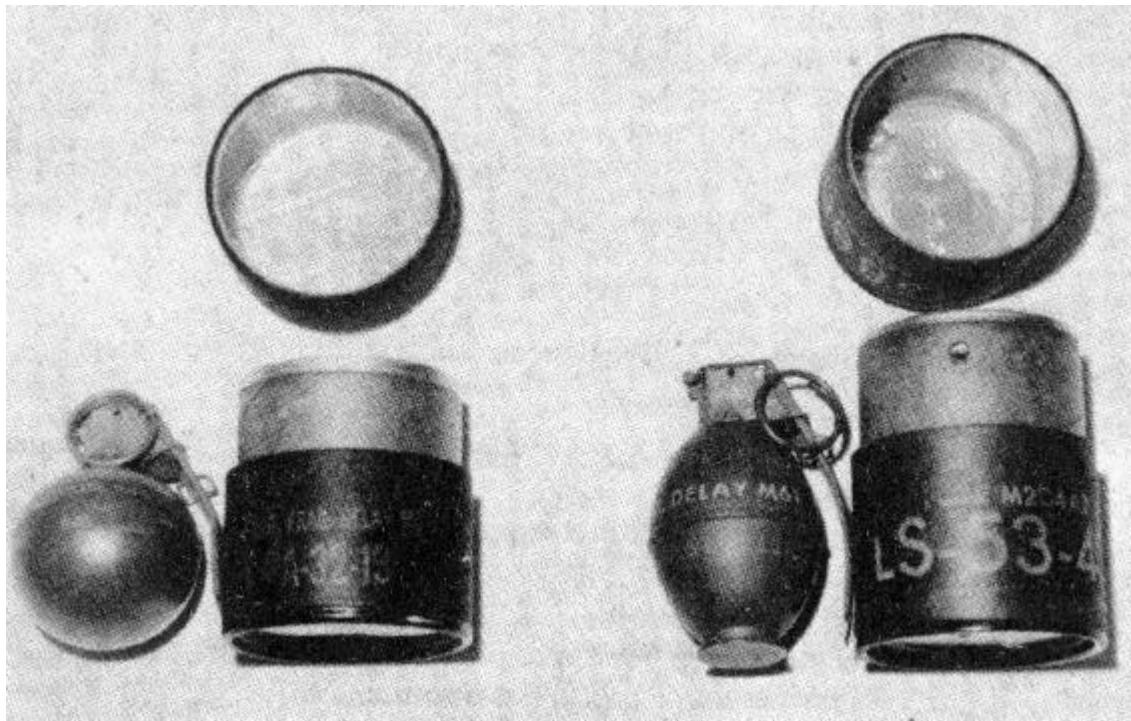

Figure 2-2      M67 and M61 Grenades with Containers
M61 and M67 Grenades are issued in wooden boxes each containing 30 grenades. Each grenade is packed in a fibreboard container (see Figure 2-2).
1. Each M61 and M67 Grenade comes in its own container primed and ready for throwing. See Figure 2-2. Safety precautions must be carried out in the following sequence: